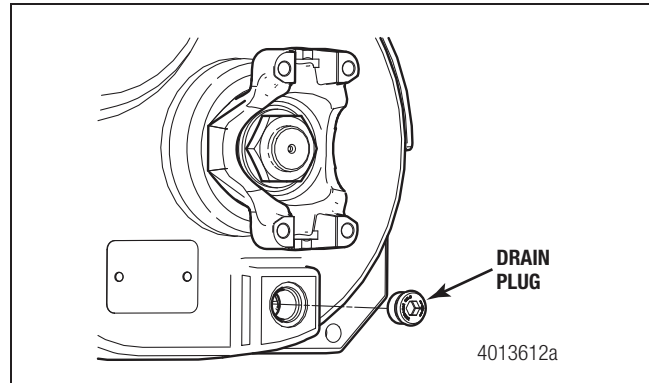

Figure 4
2. Using a 10 mm allen-head wrench, remove the magnetic drain plug from the front transfer case cover and completely drain the oil. Figure 4.